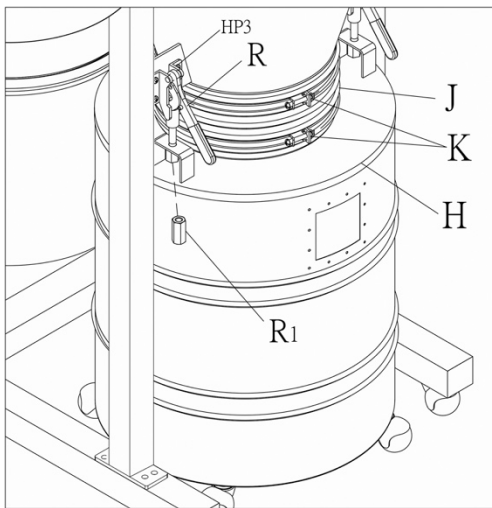

Figure 12
17. Install quick levers into threaded holes on cone flanges, using screws (HP3). See Figure 12.
18. Install hose (J) onto cone and drum lid and secure with two hose clamps (K) at top and bottom. See Figure 12.
21. Pull down both quick levers (R, Figure 12) then assemble drum lid (H, Figure 12) to quick levers. Tighten long nut (R1, Figure 12) onto each quick lever.